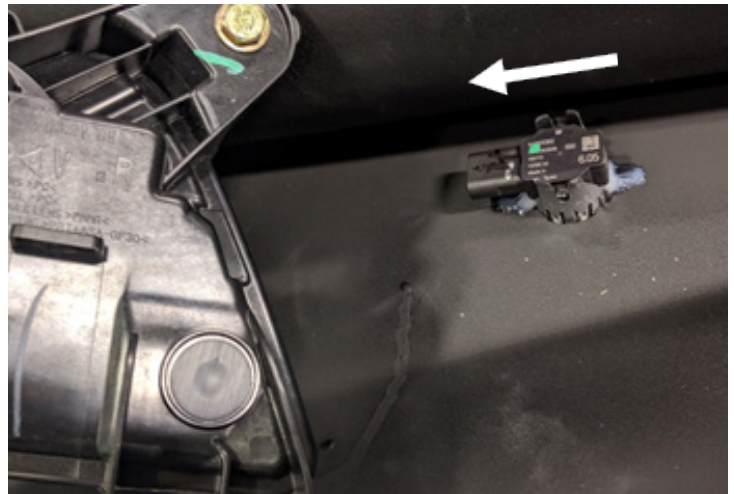
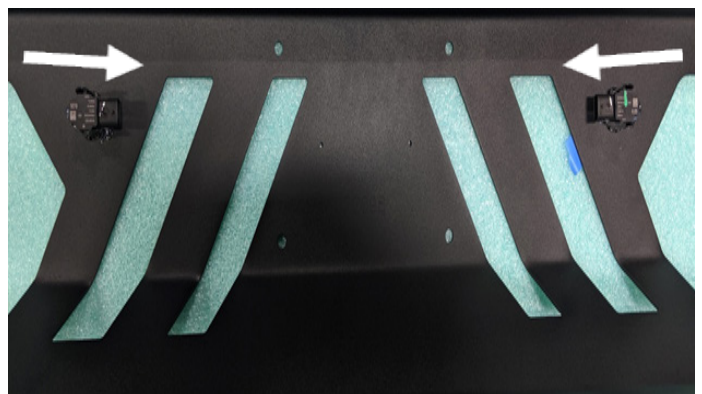

Figure 29
Figure 30
**31. After the epoxy has cured, fully seat all four (4) sensors into the sensor housings being mindful not to distort the rubber sensor isolator that sits around the sensor tip. Be sure both sides of the sensor housing are fully clipped on the sensor. Figure 29 & Figure 30**